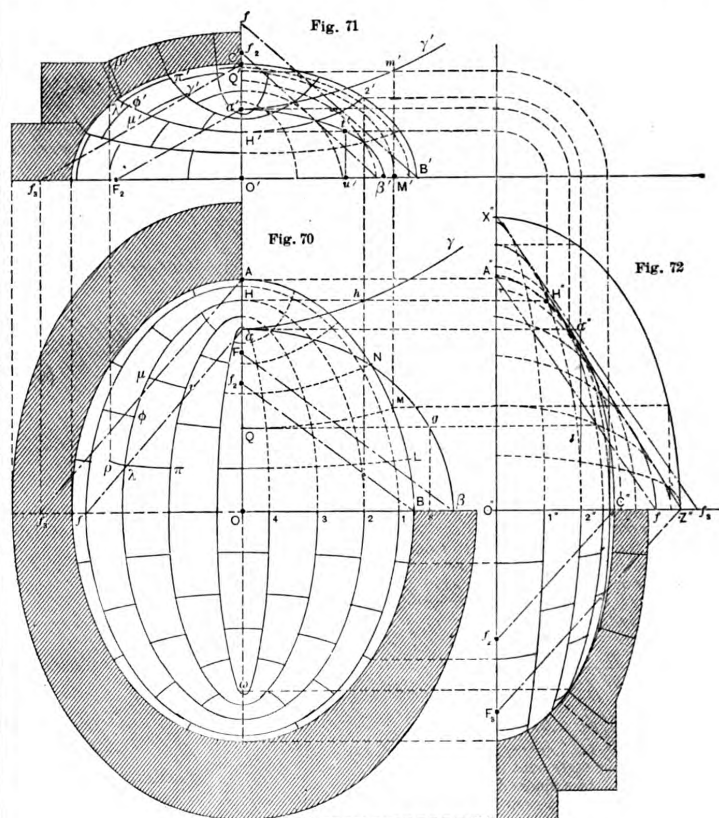

Fig. 70.—Plan of Dome. Fig. 71.—Transverse Section of Dome. Fig. 72.—Longitudinal Section.
**Elliptical Domes of Three Dimensions.**—In this case the springing-line is an ellipse, and the level of the crown is not at a height above the springing-line equal to either the major or the minor axis of the ellipse of the springing. Thus in such a vault the cross-sections are both ellipses, as in Figs. 70, 71, 72. In arranging the joints of a vault we should aim at obtaining voussoirs the angles of which are all square, and the joints of which are ruled surfaces normal to the soffit of the vault. This can always be done by designing the jointing of the vault to follow the lines of curvature of its soffit. If (Fig. 68) we have a curve drawn on a plane and con-